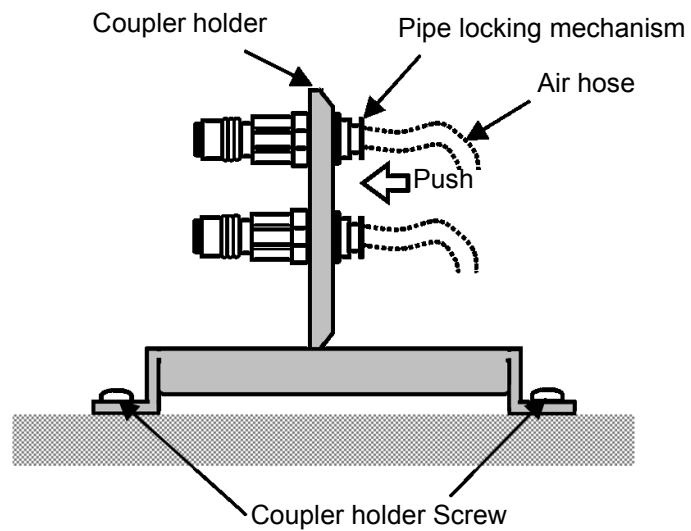

Figure 12-2 Air Connector B Removal
- (3) Remove the air hoses connected to air connectors B as shown in Figure 12-2.
- (4) Remove the resin nuts, and then remove air connectors B from the coupler holder. If the resin nuts cannot be removed easily, remove the securing screws of the coupler holder first.